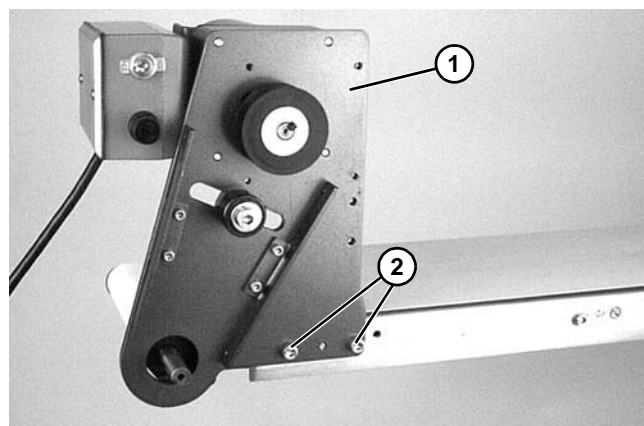

Figure 11
5. Attach mount assembly (**Figure 11, item 1**) with two screws (**Figure 11, item 2**). Tighten screws to 80 in-lb (9 Nm).